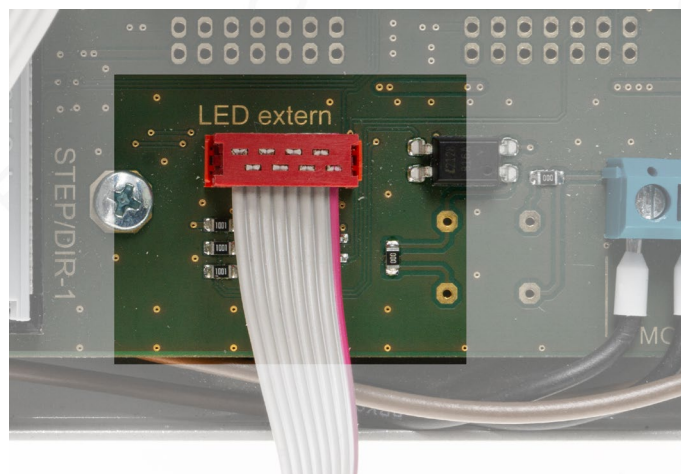

Fig. 33: Connector on the C3 Bob
- Plug the other end of the connection cable into the red socket on the C3 Bob as shown in Fig. 33.